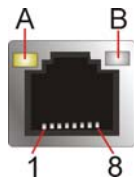

Figure 3-23: Ethernet Connector
**CN Pinouts:** See Figure 3-23 and Table 3-23